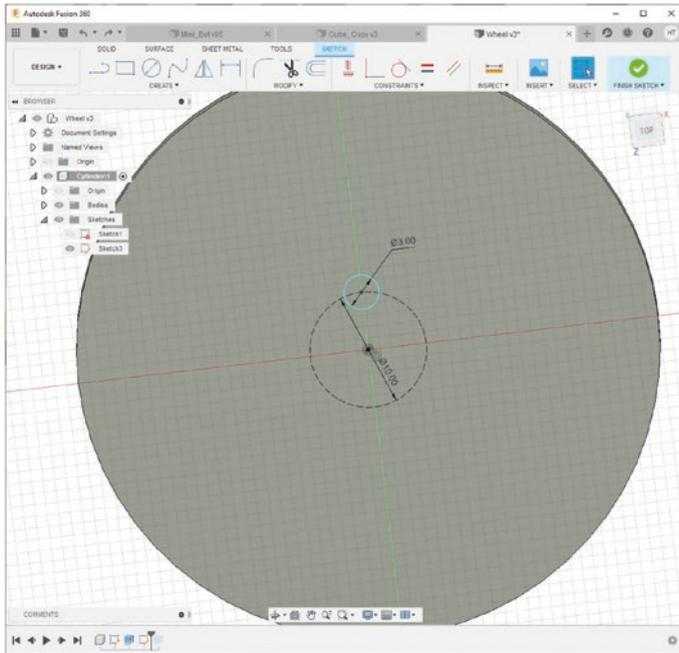

Figure 8-13. Create a 3mm circle on the perimeter of the 10mm circle
5. Draw a 3mm circle on the perimeter of the 10mm circle. See Figure 8-13.